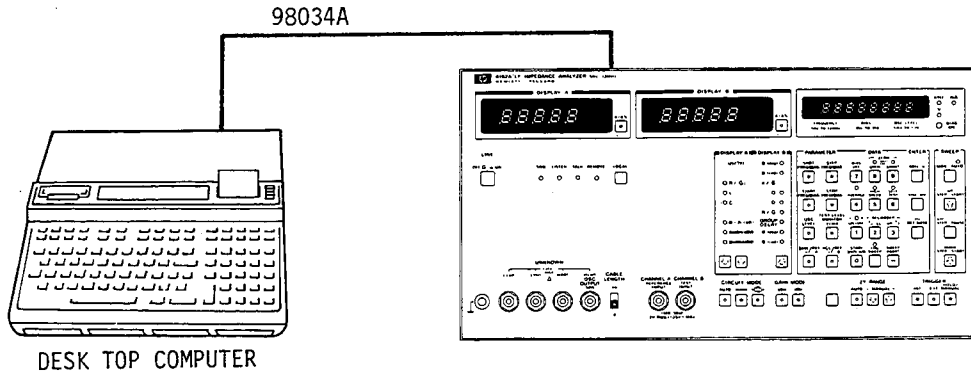

Figure 4-12. HP-IB Interface Test Setup.
- b. Connect the 98034A between the 9825A and 4192A as shown in Figure 4-12, and install the I/O ROM's in the ROM slots.